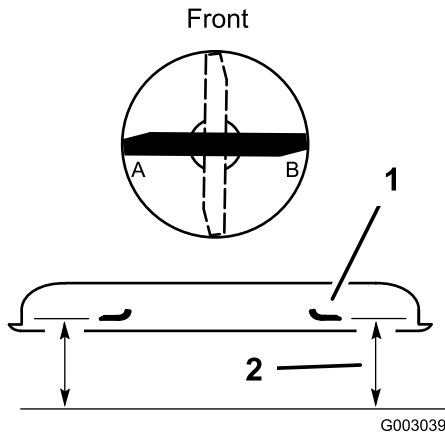

Figure 53
- Position the blade side-to-side (Figure 53). Measure at **A** and **B** locations (Figure 53) from a level surface to the cutting edge of blade tips (Figure 53).